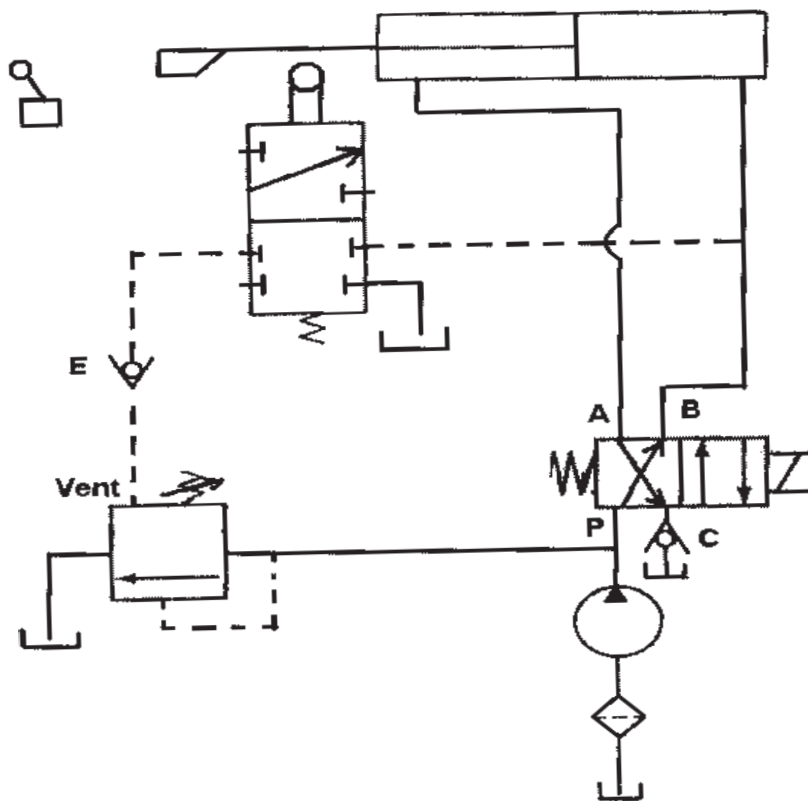

Fig 11(a)
- Q11)** a) A double acting cylinder is actuated by the circuit shown in Fig 11(a). The diagram shows the cylinder in mid stroke extending position. Note the operation of roller and limit switch by the cam provided on piston rod. The circuit also incorporate the arrangement to unload the pump (at the end of retraction) by venting the relief valve to tank via check valve E and C. Push button is used to energize the solenoid while limit switch operates to de-energize the same. Analyze the circuit and draw circuit views for mid stroke retracting and automatic stop of cylinder (at the end of cycle). [8]